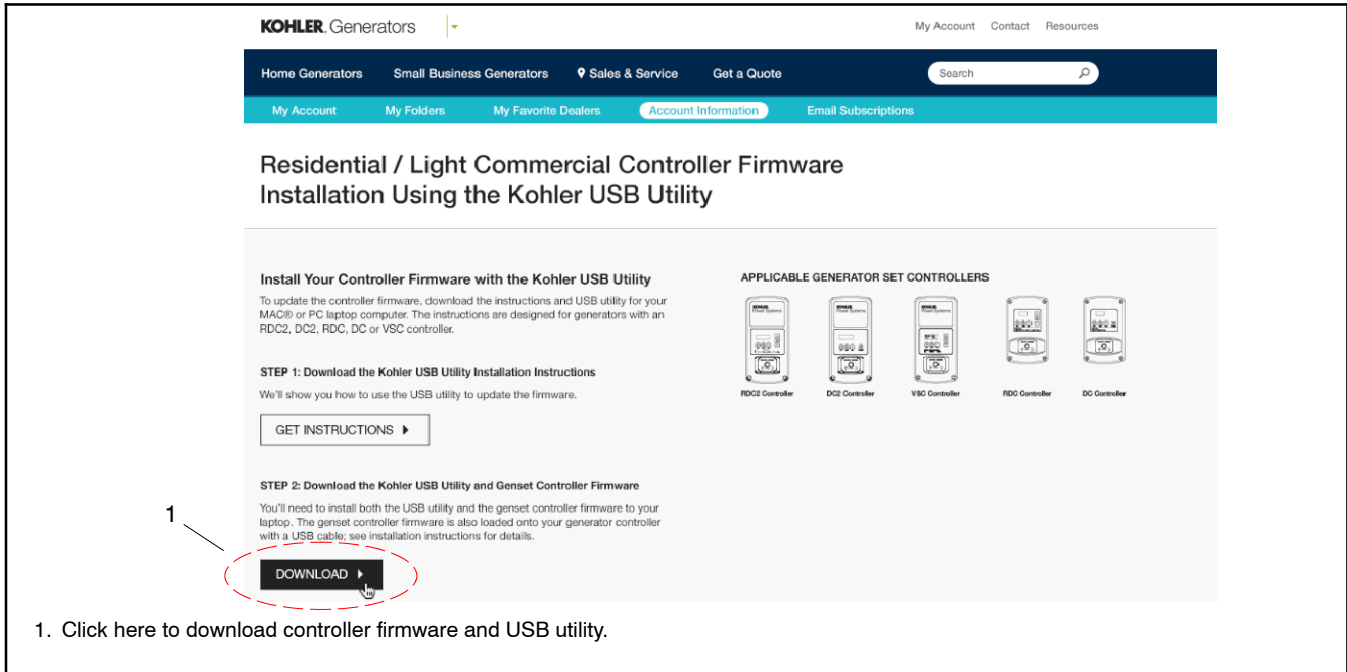
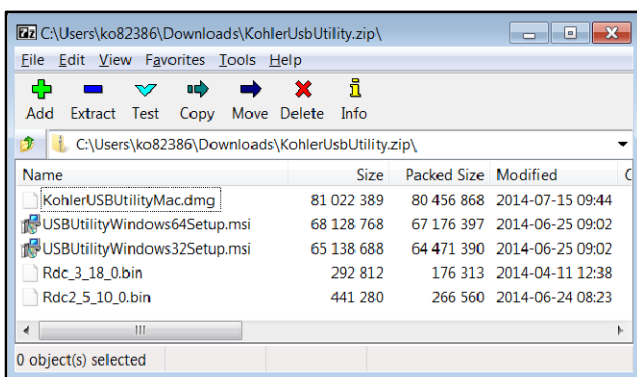

Figure 1 Web Page for Controller Firmware and USB Utility
Figure 2 Files for Download
See Figure 1.
2. Select the **Download** button. See Figure 1. When the dialog box appears, select **Open**. The list of files shown in Figure 2 appears.